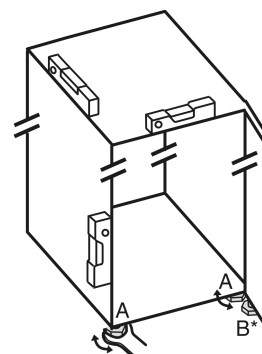

Fig. 23
- ▶ Unscrew the adjustable feet Fig. 23 (A) using the enclosed open-end spanner and a spirit level until the appliance is firmly aligned and level.
► Unscrew the adjustable foot *Fig. 23 (B)* on the swap bearing block with the enclosed open-end spanner until it rests on the floor.
► Turn the adjustable foot *Fig. 23 (B)* 90° further.